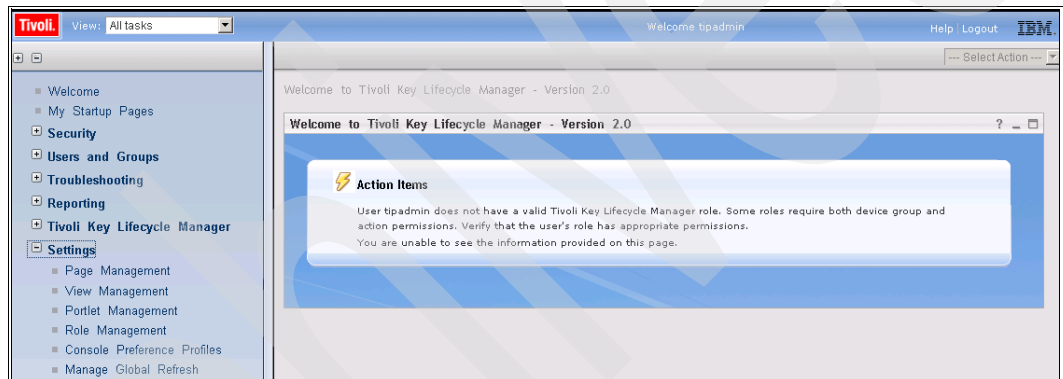

Figure 9-33 Welcome with settings selected
3. Select **Settings** → **Role Management** in the navigation pane (Figure 9-33).